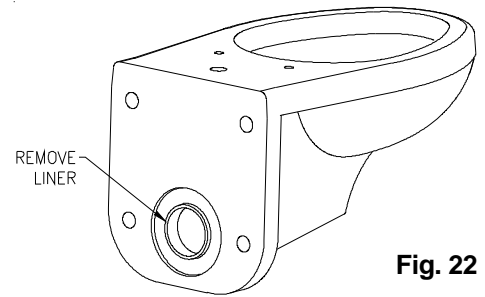

Fig. 22
22. Peel off removable backing liner from the opposite side of the gasket and hang the water closet onto the threaded rods. Ensure Neo-Seal gasket seals to the coupling. See Fig. 22